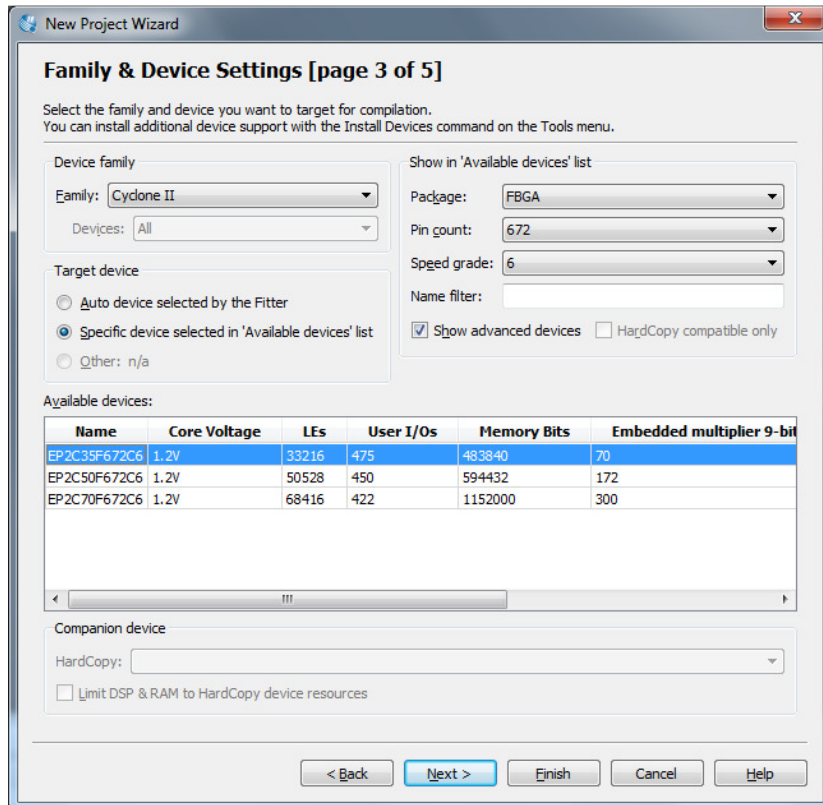

Fig. 4: 'Family & Device Settings'
2. Click 'Next' and 'Next' again to reach the 'Family and Device Settings' page and select the following settings. (See Fig. 4) This is the device specification for the Altera DE2 Development Kit that we will use in this lab.